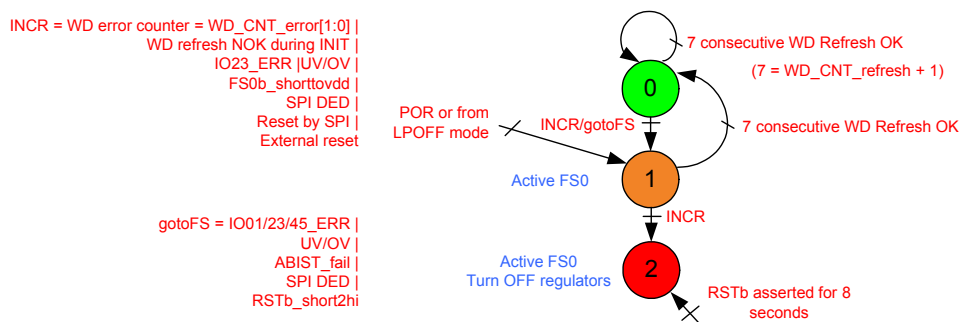

Figure 17. RSTB Error Counter(RSTb\_err\_FS = 1)
- RSTB\_err\_FS = 1 / Intermediate = 1; Final = 2 (Figure 17). When reset error counter reaches 2, the device goes into deep reset and fails.